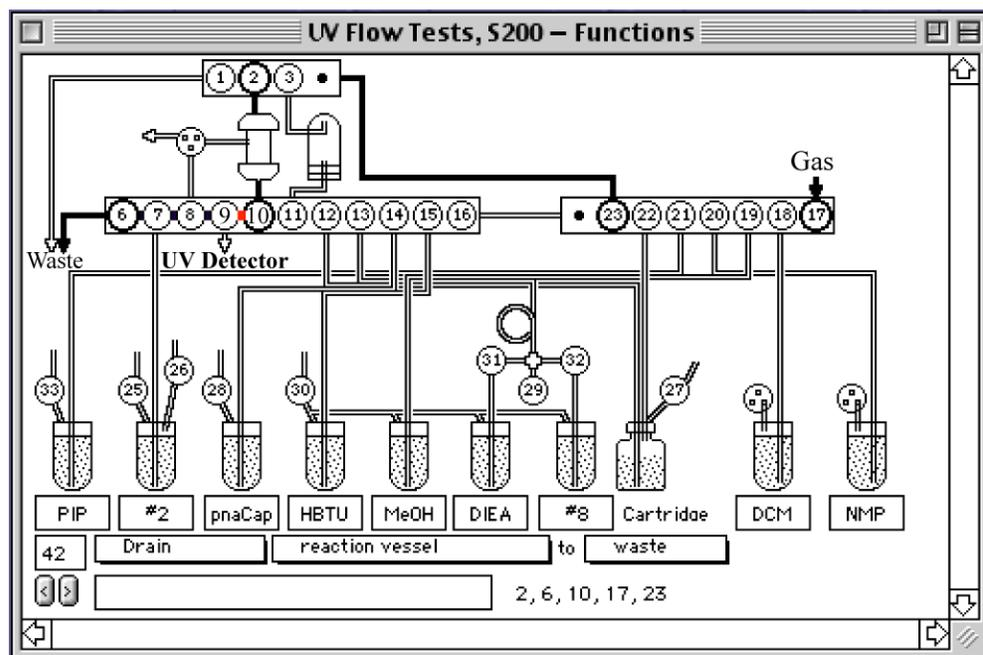

Figure 1-2 The small volume of Fmoc-solution that is directed to the UV detector is shown in red.
After a 2-minute cycle of deprotection in Module B, a sample of the Reaction Vessel liquid is drained through the lower valve block (VB) to waste, filling the VB between port 9 (UV) and port 10 (RV) with approximately 13 μL of the Fmoc solution. The sample of the Fmoc solution (the UV plug) is then directed to the flow cell of the S200 UV detector. When conditional (overtime) deprotections develop in Module b, the UV plug is withdrawn from the Reaction Vessel after each 10-minute cycle. See Figure 1-2 for the location of the Reaction Vessel sample (color).